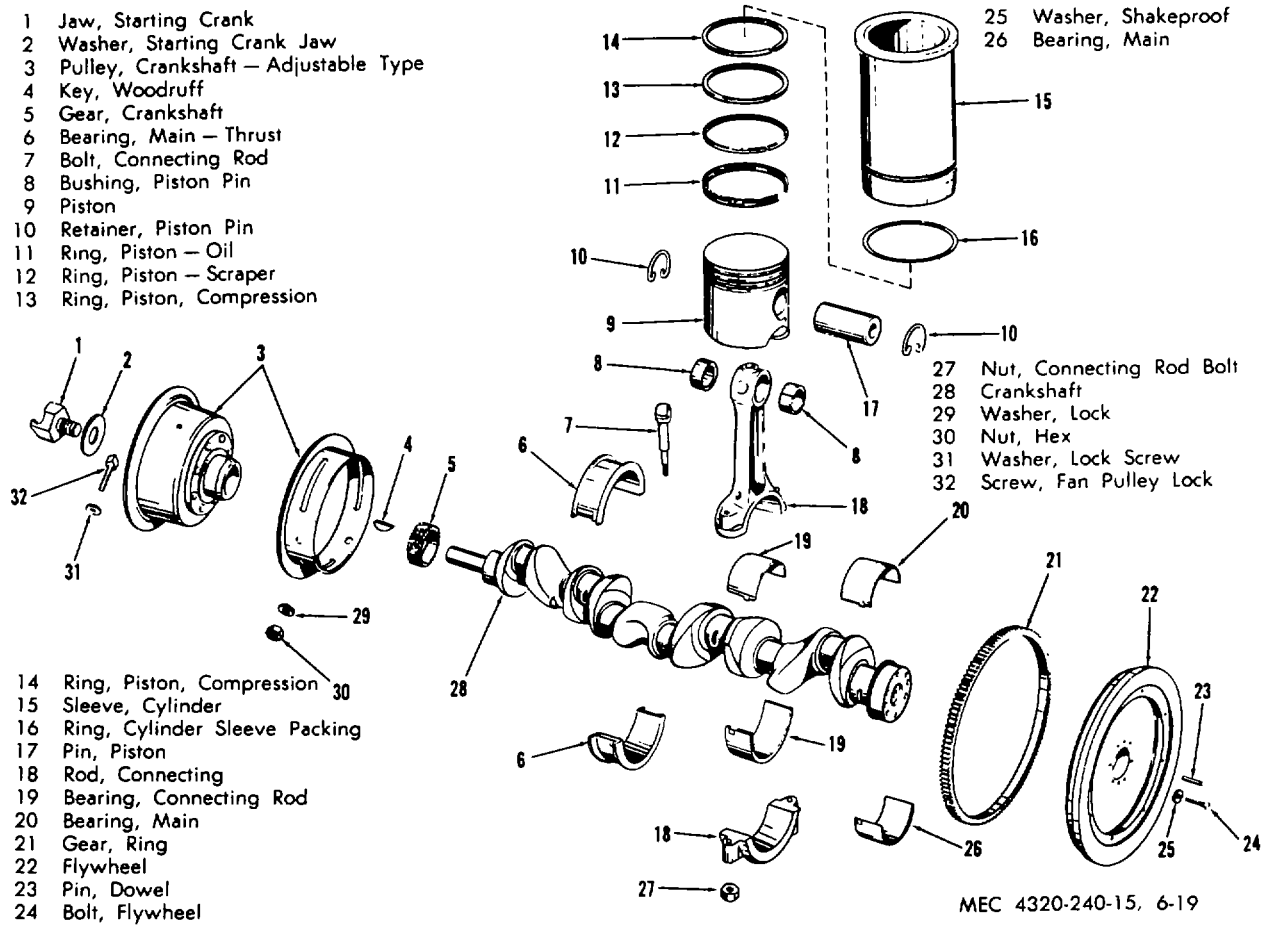

Figure 6-19. Crankshaft, pistons, connecting rods, bearings.
(1) Refer to paragraph 6-15b and remove the oil pump.
(2) Refer to paragraph 6-12b and remove the cylinder head.
(3) Ream the ridge off the top of each cylinder bore with a standard ridge reamer. Blow metal fragments from the cylinder with compressed air.
(4) Refer to figure 6-19 and remove the two nuts (27) that secure a connecting rod cap to a
(5) Push the assembled rod and piston up through the top of the block. While pushing the piston and rod from the block be very careful the connecting rod does not scratch the cylinder wall.
c. Disassembly. Refer to figure 6-19 and disassemble connecting and piston assembly. Disassemble the pistons and connecting rods in sets and keep the sets together. Also be sure each piston rod assembly is reinstalled in the cylinder from which it was removed.